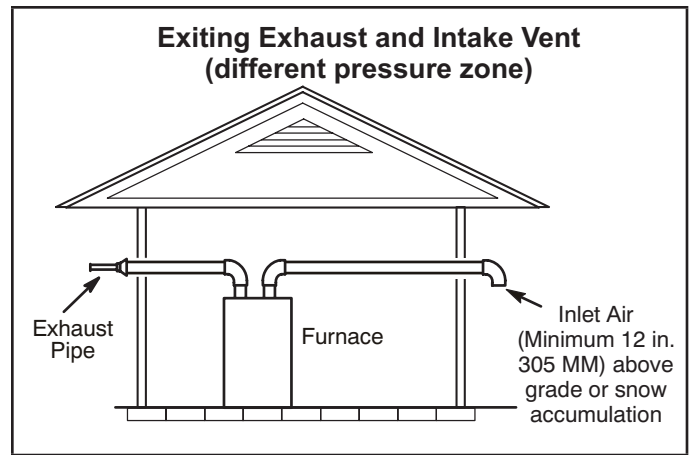
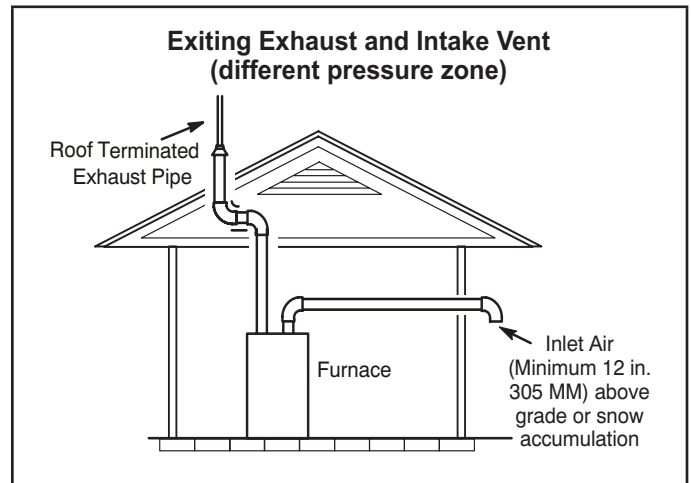

FIGURE 35
FIGURE 36
- 1 - Intake and exhaust terminations are not required to be in the same pressure zone. You may exit the intake on one side of the structure and the exhaust on another side (FIGURE 35). You may exit the exhaust out the roof and the intake out the side of the structure (FIGURE 36).